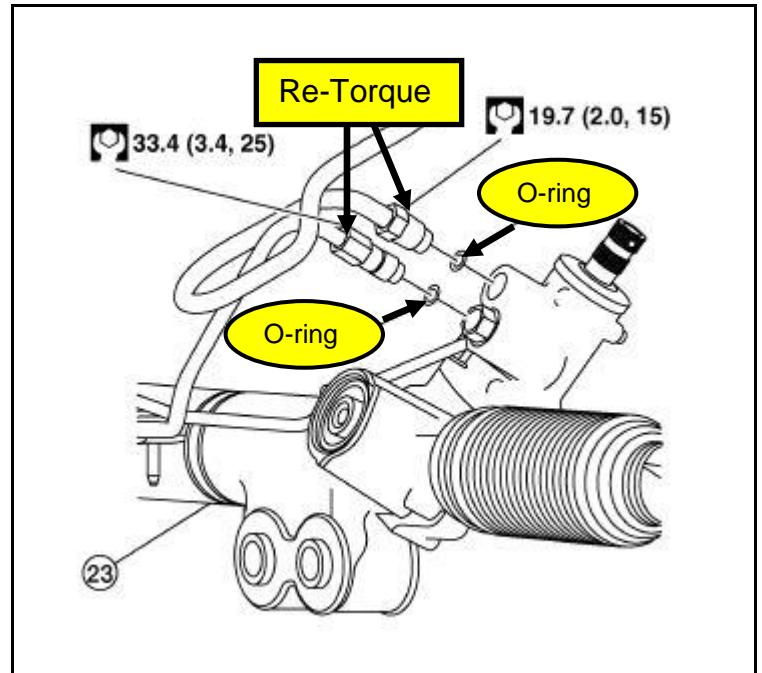

Figure 4
4. Clean area and re-torque both lines to ensure O-Ring is fully seated/sealed (Figure 4).
7. If a leak is found, isolate the leak to the affected line and replace the O-ring (Figure 4).